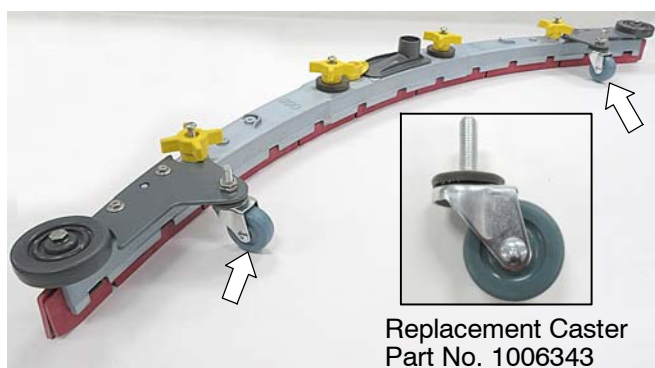

FIG. 141
6. Replace the squeegee casters every 5th replacement blade set or 500 hours or 12 months of machine use, whichever comes first. Uneven floor types may require more frequent replacements (Figure 141).